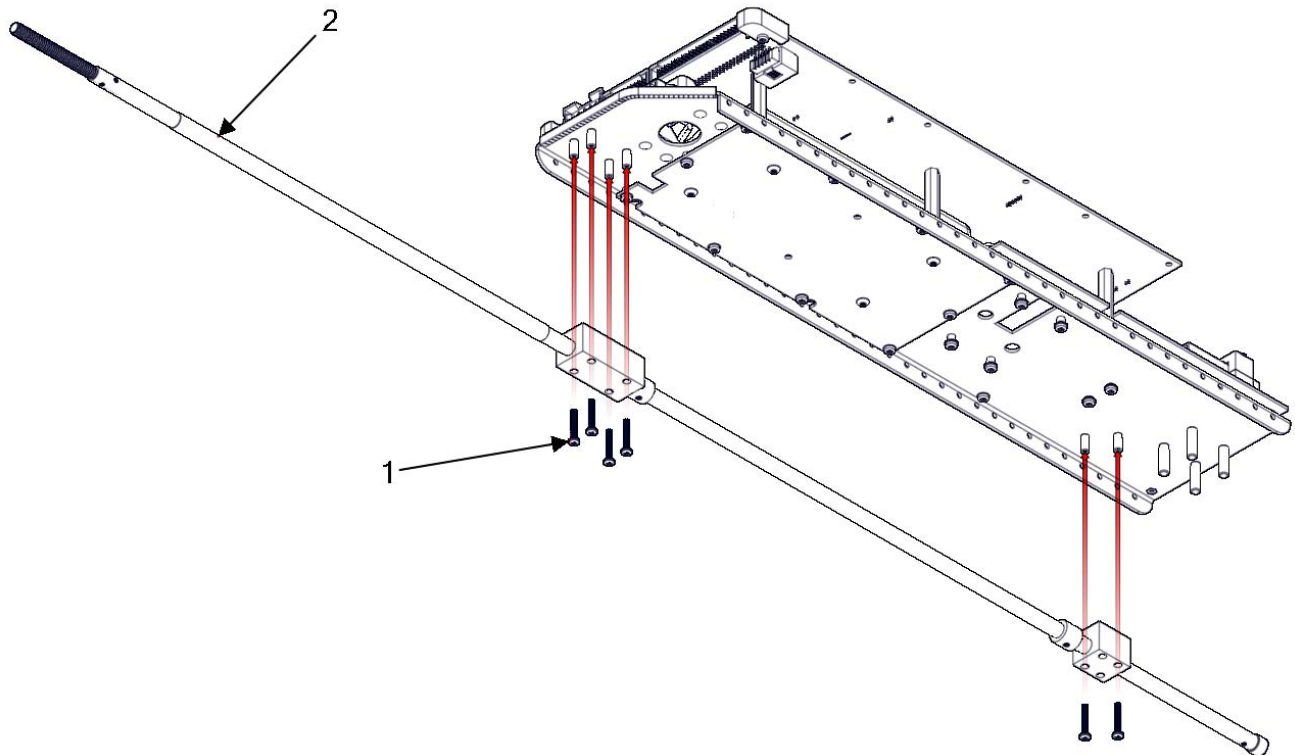

Figure 2-4 Tie rod assembly.
1. Remove the six screws (Figure 2-4, Item 1) that attach the tie rod (Figure 2-4, Item 2) to the bottom of the aft electronics tray.
2. Remove the tie rod (Figure 2-4, Item 2).
1. Position the tie rod assembly (Figure 2-4, Item 2) on the standoffs on the bottom of the aft electronics tray.
2. Install the six screws (Figure 2-4, Item 1) that attach the tie rod (Figure 2-4, Item 2) to the bottom of the aft electronics tray.